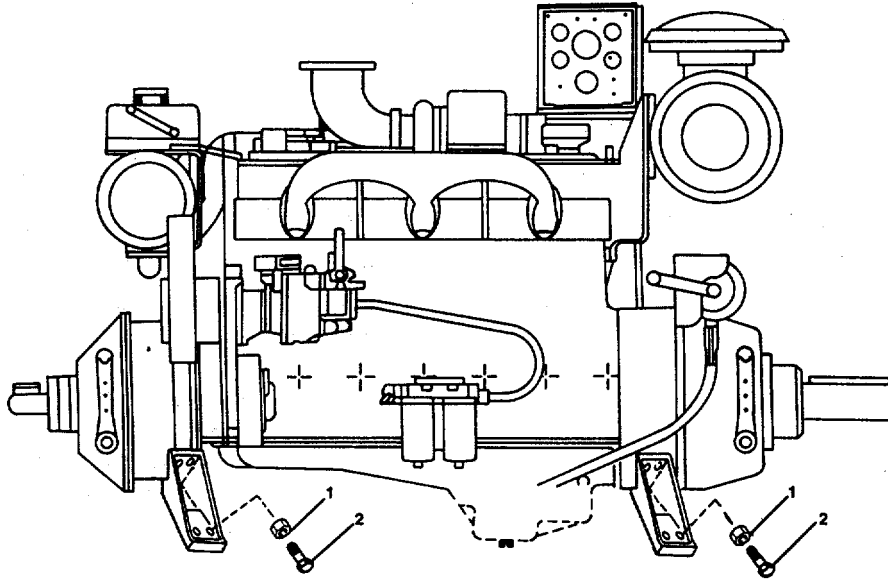

FIGURE 3-1. Bowthruster Engine.
## 3-13. Replace Bowthruster Engine Assembly. (FIGURE 3-1)
- b. Remove two capscrews (2, FIGURE 3-1) and bolts (1) holding the front and rear engine mounts to the frame support.